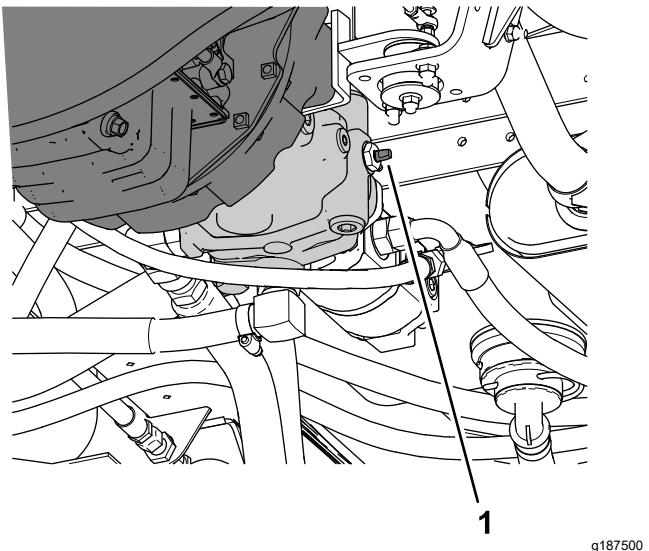

Figure 60
3. Rotate the tow valve (Figure 60) 90° in either direction to open the tow valve.